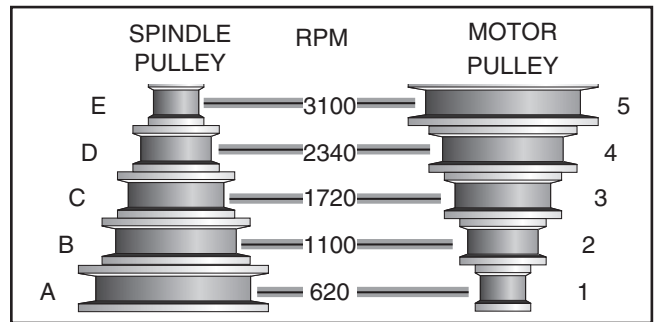

Figure 16. Spindle speed chart.
This drill has five spindle speeds, from 620 to 3100 RPM. Refer to the speed chart located under the belt guard or **Figure 16**.
The highest speed is obtained when the belt is positioned on the smallest spindle pulley sheave (E) and the largest motor pulley sheave (5), as shown in **Figure 16**.